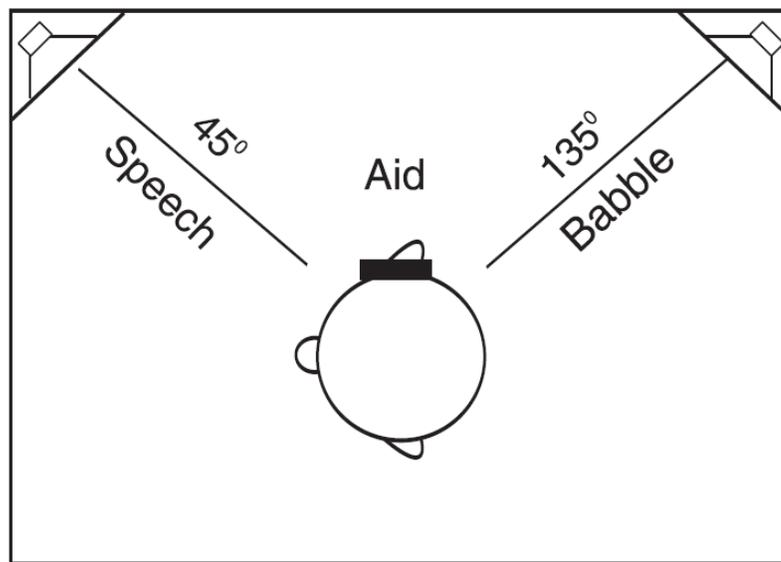

Figure 3
**NOTE:** There are two possible “45 degree” orientations for the patient. The desired orientation places the aided ear between the loudspeakers. See Figure 3. When the other ear is tested, the patient will need to be rotated to face the opposite wall and the speech and babble switched to the opposite speakers.